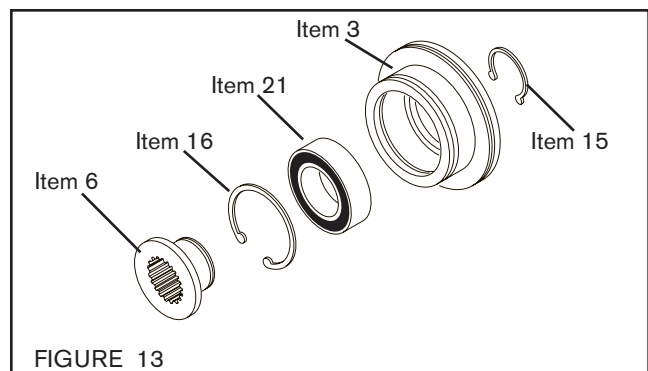

FIGURE 13
16. Press the new Bearing (Item 21) into the Piston (Item 3) and reinstall the Retaining Ring (Item 16) (See Figure 13).
17. Press the Friction Disc (Item 6) into the new Bearing (Item 21) and reinstall the Retaining Ring (Item 15) (See Figure 13).